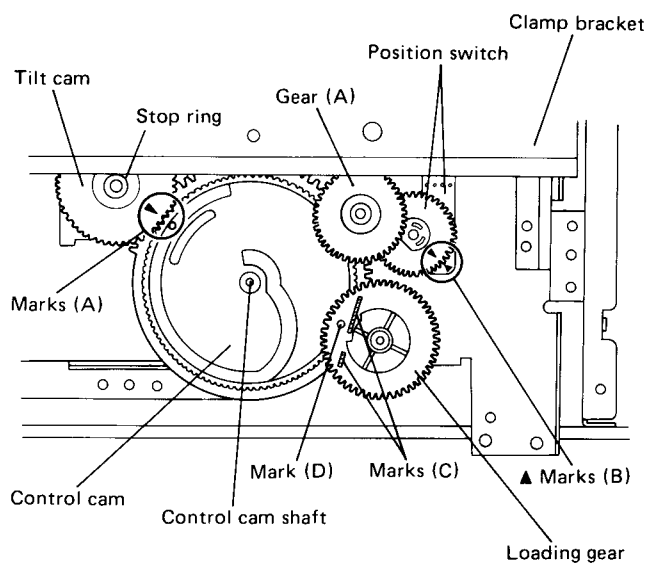
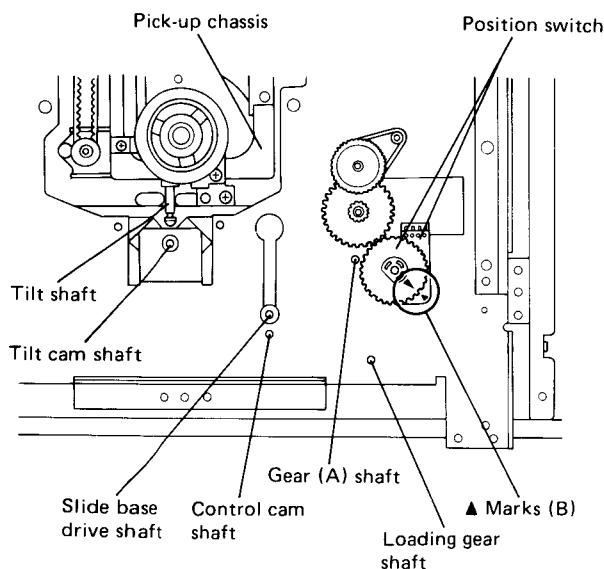

Fig. 7
Fig. 11
1. Turn the control cam clockwise until it stops. (Fig. 7)
2. Check that the marks (A) and the marks (B) are aligned respectively.
- If the marks (A) are not aligned between each other, refer to "ATTACHING THE CONTROL CAM" (page 11).
- If the marks (B) are not aligned between each other, remove the gear (A) and align them. Once the marks (B) are aligned, replace gear (A).
1. Set the slide base drive shaft to the closest position to the control cam shaft. (Fig. 11)
5. Align the mark (A) on the control cam with the mark (A) on the tilt cam, and mount the E-clip on the tilt shaft. (Fig. 7) When the tilt cam is attached, the control cam may rotate counterclockwise due to the weight of the pick-up chassis. Return the control cam by turning it clockwise until it stops.
6. Align the mark (B) on the position switch as shown in Fig. 7 or Fig. 11.
7. Attach the gear (A) and mount the retaining ring. (Fig. 7)
8. Attach the loading gear so that its mark (D) points to the control cam shaft and mount the retaining ring. (Fig. 7)